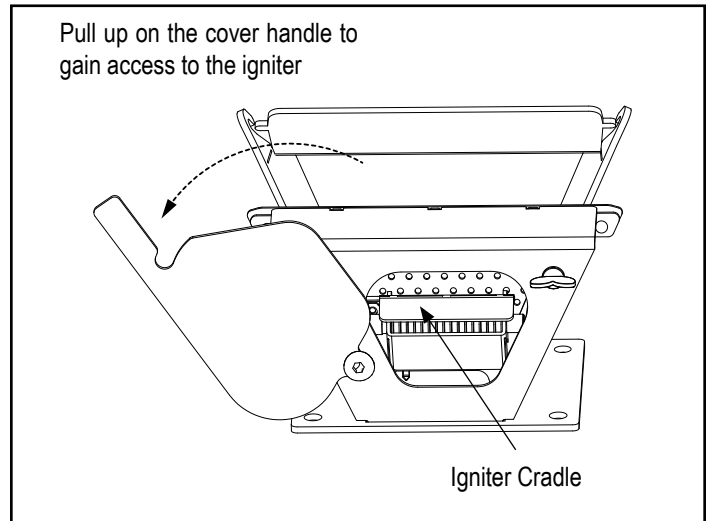

Figure 2
4. Open the bottom of the burnpot by swinging the cleanout cover to the left, remove any debris that has developed. Figure 2.